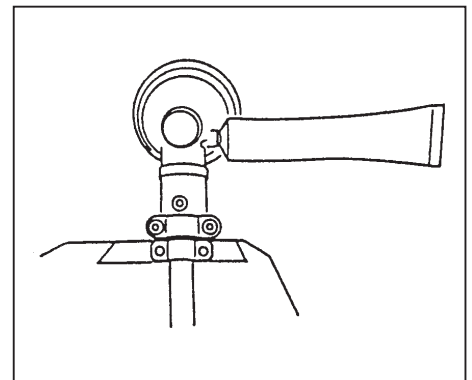

Fig. 3-5B
**Angle transmission (Fig. 3-5B)**